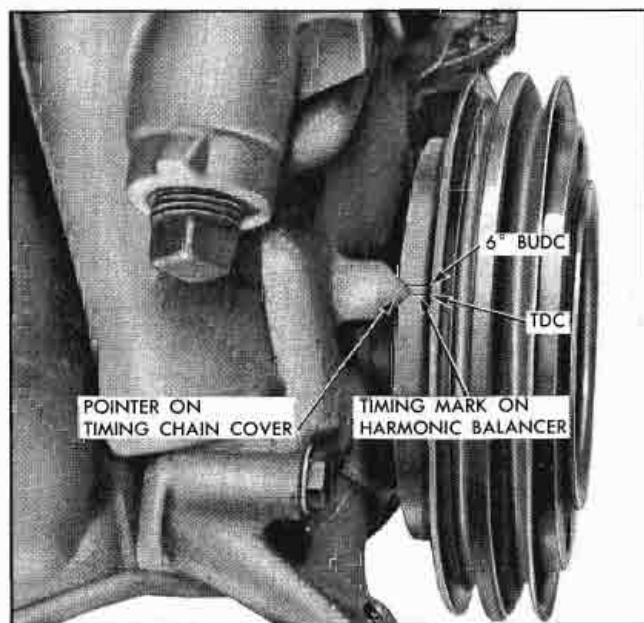

Fig. 6-42 Timing Mark on Harmonic Balancer Aligned with Pointer on Timing Chain Cover
5. Install new harmonic balancer by reversing above steps, lining up timing mark on balancer with pointer on timing chain cover (Fig. 6-42).